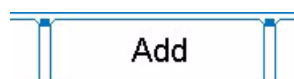

Figure 9.16 Add/Remove Button
1. Press the **Add** button (Figure 9.16) in the main screen.
1. Press the **Remove** button (Figure 9.16) in the main screen.